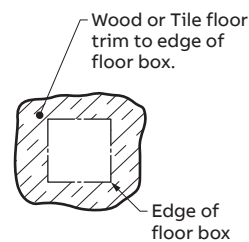

Figure 1a - Wood or Tile floor
- Figure 1a - Wood or Tile floor trim.